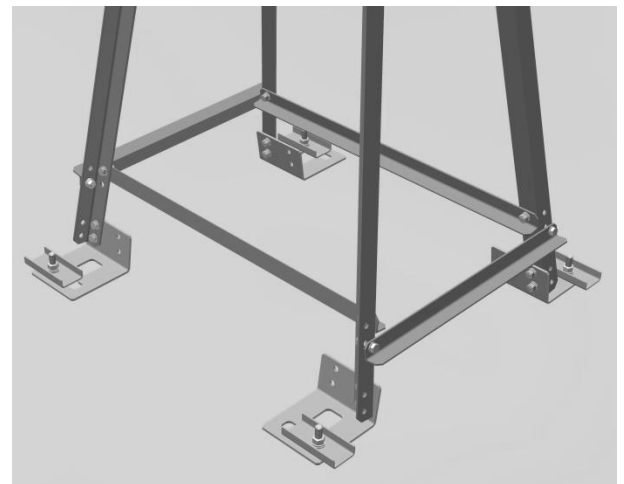

Figure 41
- 729...909 x 862...900 mm (Figure 41).